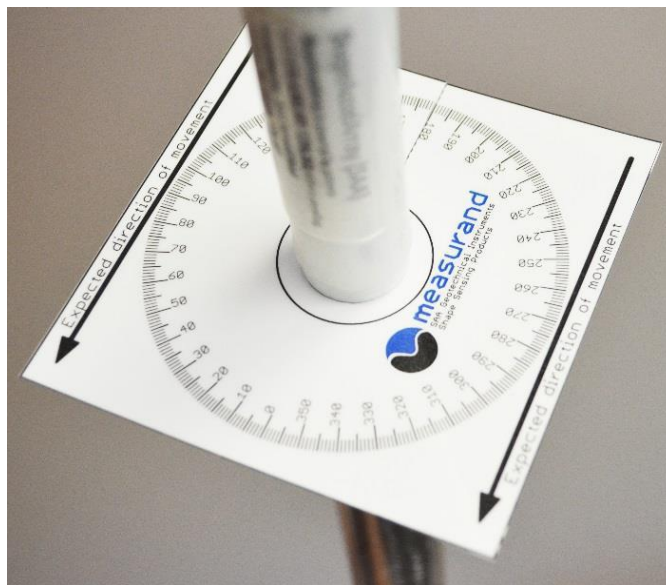

Figure I. 1: X-mark Protractor square protractor.
1. Place the square protractor (**Figure I. 1**) around the PEX at the top of the SAA.